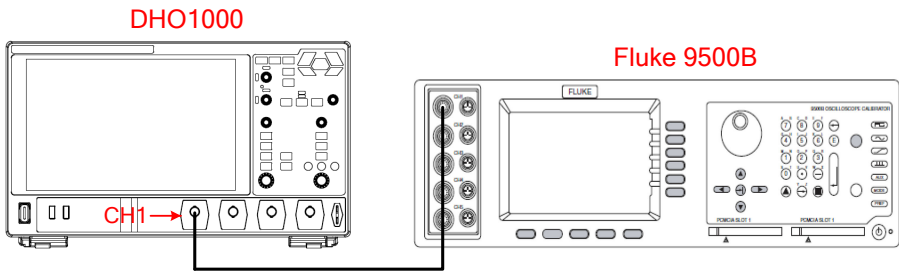

Figure 5.3 DC Gain Accuracy Test Connection Diagram
1. Connect the active head of Fluke 9500B to CH1 of the oscilloscope, as shown in *Figure 5.3*.